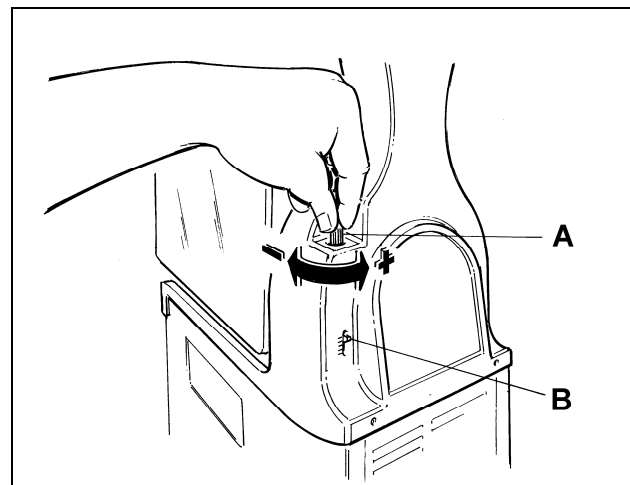

Fig. 9
b) **Adjusting the consistency:** to alter the consistency of the product, turn the screws located on the back of the machine in the following way: clockwise to make the product less dense, counter clockwise to make the product denser (see figure 9).